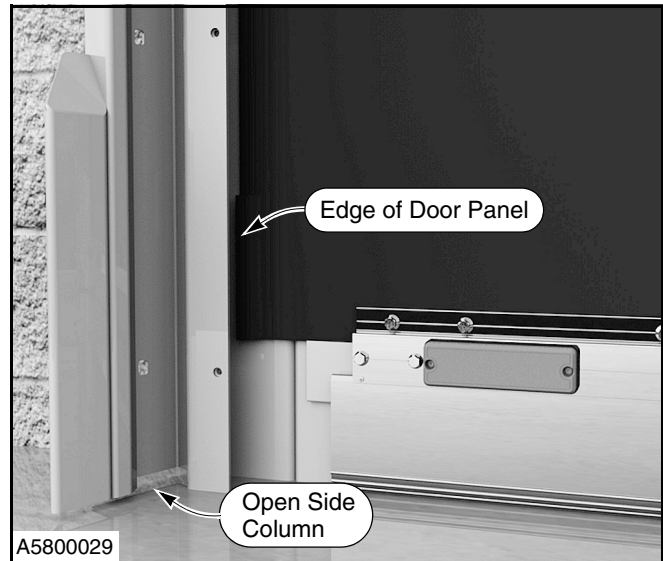

Figure 3
- This is a breakaway, partially self-repairable door. Upon impact, the door panel will pop out of the side column guide(s) and will need to be operated to the fully open position to allow the door to reset. The door panel has an edge that may bind in the side column if not completely broken away. Therefore, the motor may stall while trying to operate the door to the fully open position. If you are unable to get the door to the fully open position using the control panel, you may have to open the side column cover(s) to allow the panel to travel. (See Figure 3.)